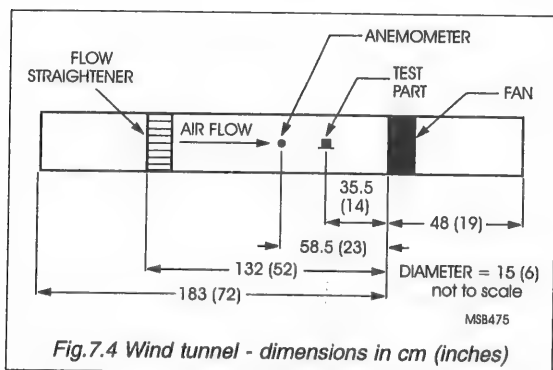
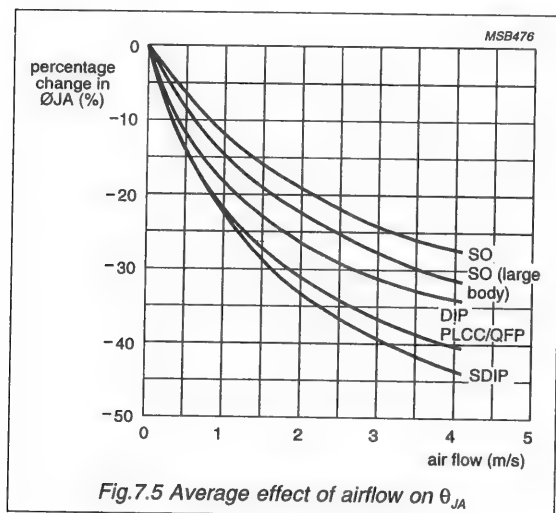

Fig.7.4 Wind tunnel - dimensions in cm (inches)
Fig.7.5 Average effect of airflow on θ_{JA}
thermal resistance at various levels of airflow by placing the test setup inside a wind tunnel (Fig.7.4). The average effect of airflow on thermal resistance for package types at a particular air flow rate can be determined using a "derating" graph (Fig.7.5). When using the derating curves, it's important to note that the variety of sizes in a package type group has been averaged. Please see the following section "Thermal Resistance Data – Assumptions and Precautions" concerning airflow.
4. When using airflow derating curves (see Fig.7.5), please note that in actual applications where airflow is available, the flow dynamics may be more complex and turbulent than in a wind tunnel. Also, the many different sizes of packages in a package family such as QFP have been averaged to give one curve for ease-of-use. Lastly, the test boards used in the wind tunnel contribute significantly to forced convection heat transfer and may not be similar to an actual application PC board, especially its size.